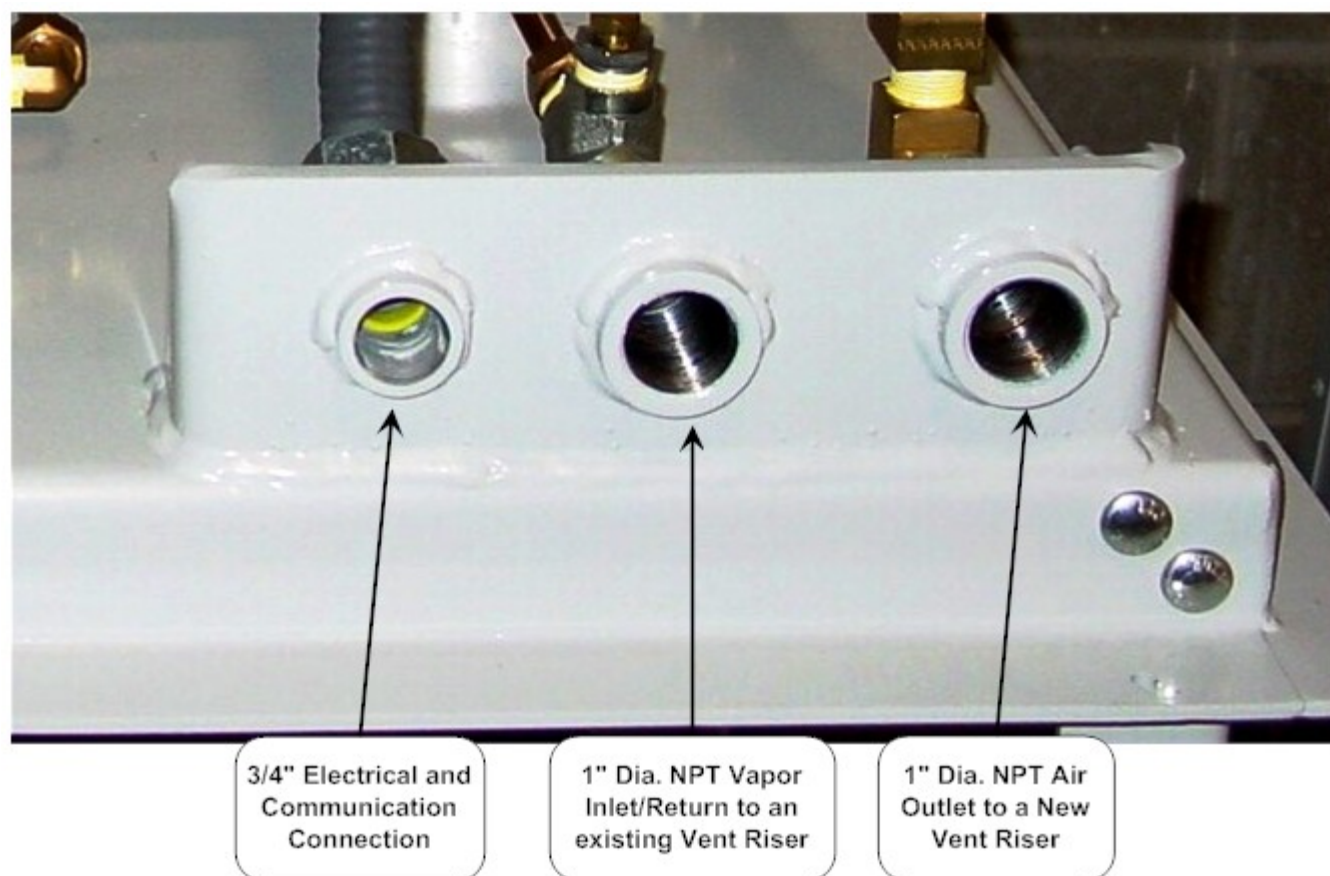

Figure 9: *Green Machine* Connections
1. Install the vapor air inlet/return piping as shown in **Figure 9** from the vapor inlet/return connections on the *Green Machine* to an existing vent riser.
2. Install piping as shown in **Figure 9** from the vapor air outlet to a new vent riser.